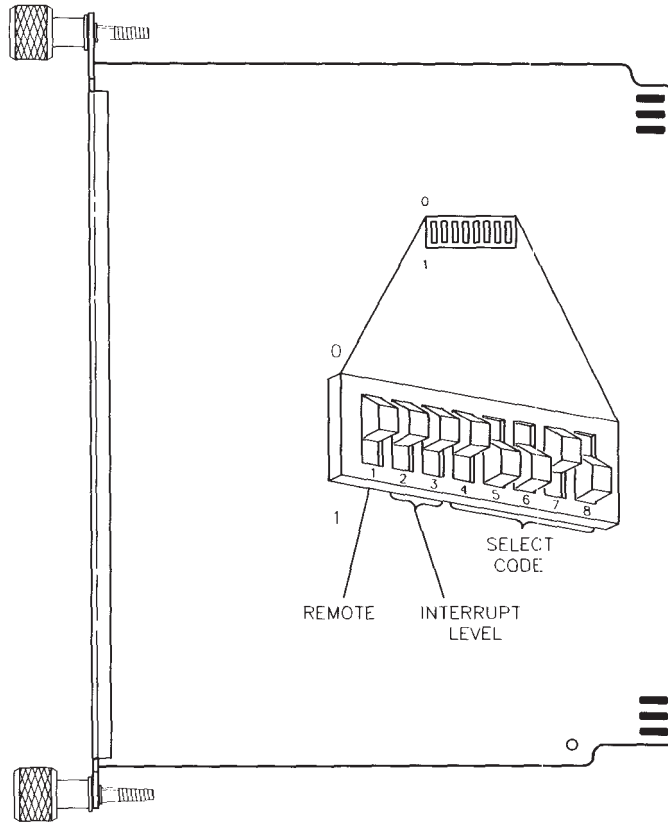

Figure 5-29.
- a. Find the group of eight switches on the interface by referring to Figure 5-29. Switches 4 thru 8 in this group determine the select code.
- Find the group of eight switches on the interface by referring to Figure 5-29. Switches 2 and 3 in this group determine the interrupt level.
- a. Find the group of eight switches on the interface by referring to Figure 5-29. Switch 1 in this group is the Remote switch.
- If you are connecting a terminal to port 1 of this interface and want the terminal on port 1 to be the system console, set this switch to *1* (remote), which is *opposite* that shown in Figure 5-29. Be aware that the boot ROM will not recognize this terminal as the system console, even though HP-UX will. No boot ROM messages will appear on the associated terminal; therefore, do not use the HP 98642A as a system console until after HP-UX is installed.
- If you are connecting a terminal to port 1 of this interface but *do not* want the terminal on port 1 to be the system console, set this switch to *0* (local) as shown in Figure 5-29.